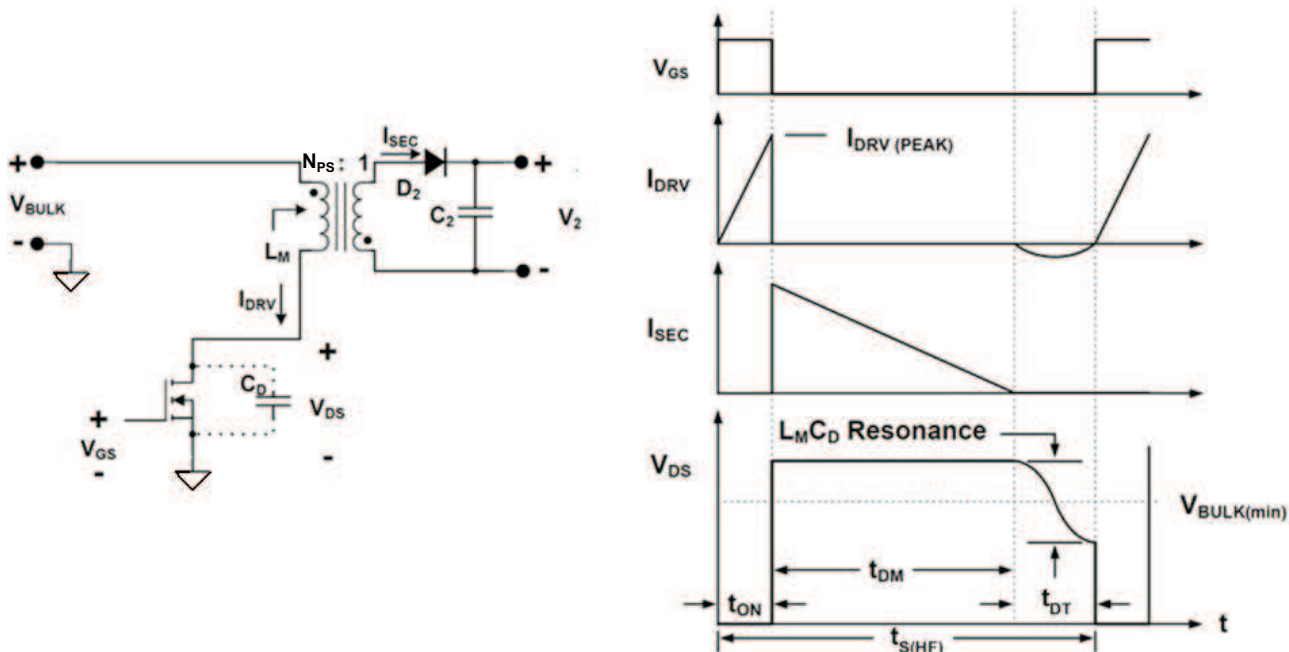

Figure 22. Basic Flyback Converter and Waveforms at Peak Load and Minimum  $V_{BULK}$  Voltage
To begin a power supply design, the power supply designer needs to know the peak power to be delivered by the converter, the input voltage range, the output voltage, and an estimate of the maximum allowable bulk voltage ripple. Select the maximum allowable stress voltage for the external power MOSFET. The stress voltage,  $V_{DS}$ , determines the reflected secondary voltage that resets the flyback transformer and the turn ratio between primary and secondary. A simplified diagram of the converter and its waveforms are shown in Figure 22.
The minimum switching period is when the converter is operating in the Frequency Modulation (FM) mode, referred to as  $t_{S(HF)}$ . This switching period must equal the sum of the switching intervals at minimum input voltage, maximum load, as shown in Figure 22 and described in Equation 6. The switching intervals are  $t_{ON}$ , the conduction time of the MOSFET;  $t_{DM}$  the demagnetization time of the transformer and  $t_{DT}$ , the duration of the deadtime, equal to half of the resonant cycle, after the transformer is de-energized.